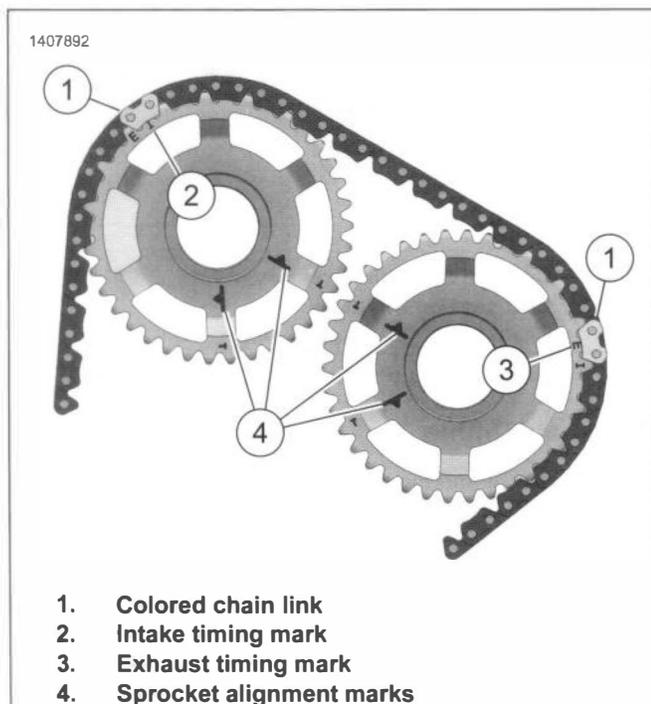
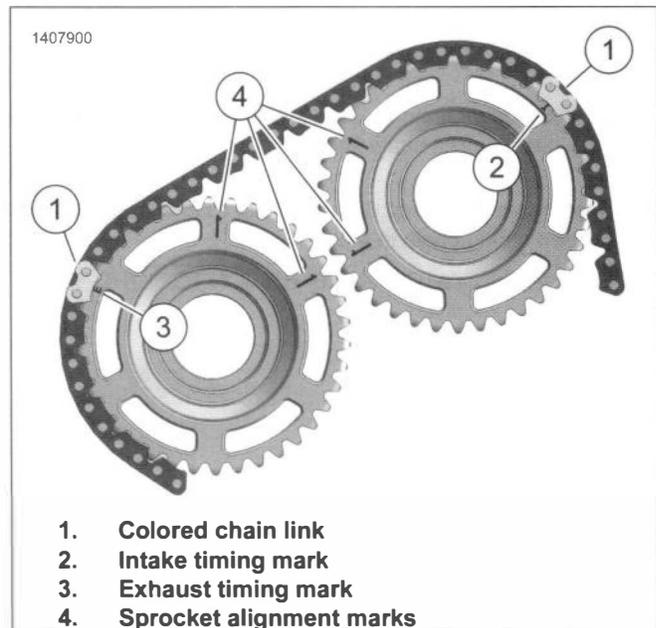

Figure 4-24. Alignment Marks, Front Cylinder Head
Figure 4-25. Alignment Marks, Rear Cylinder Head
See Figure 4-24 and Figure 4-25. The colored chain links (1) and sprocket alignment marks (4) are represented when assembling the engine's camshaft sprocket and timing chain components from a complete tear down. When the camshaft cover has been removed after the engine's Crankshaft Lockout procedure, the colored chain links (1) **may not** be in alignment with the intake or exhaust timing marks (2). **Do not** unlock the crankshaft and rotate the assembly. Check the location of the sprocket alignment marks (4) and if they are in aligned as shown, then the camshaft timing is correct. Work may continue.
1. See Figure 4-24. Align intake timing mark (2) to colored chain link and hold sprocket in place.
2. Align exhaust timing mark (3) to colored chain link and hold sprocket in place.
1. See Figure 4-25. Align intake timing mark (2) to colored chain link and hold sprocket in place.